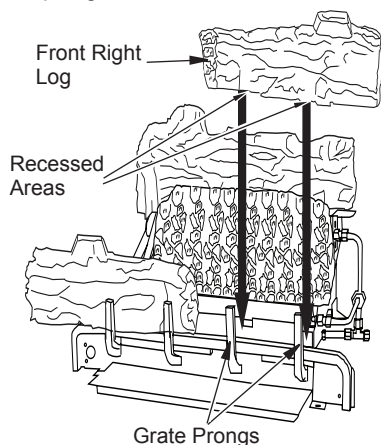

Figure 31 - Installing Front Right Log
- Position front right log against right side of grate prongs (see Figure 31). The two recessed areas fit behind the two grate prongs.